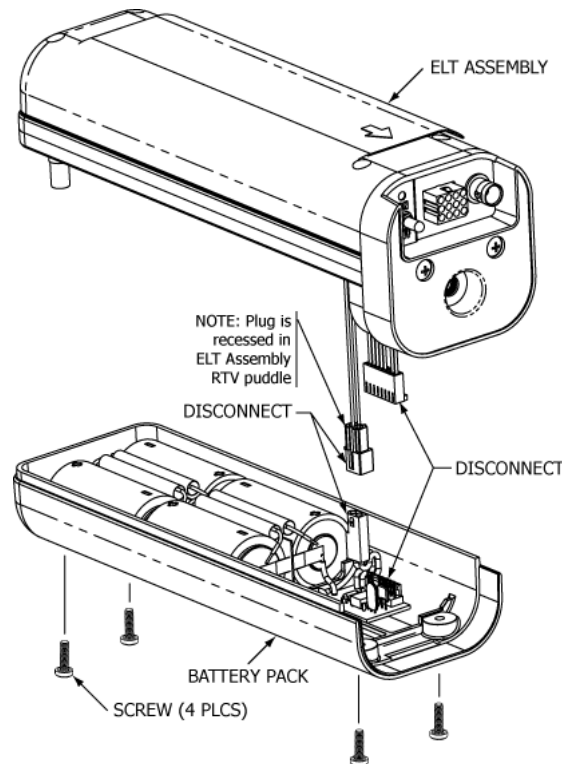

Figure 12 Battery Pack Removal
- 1) See Figure 12 Battery Pack Removal.